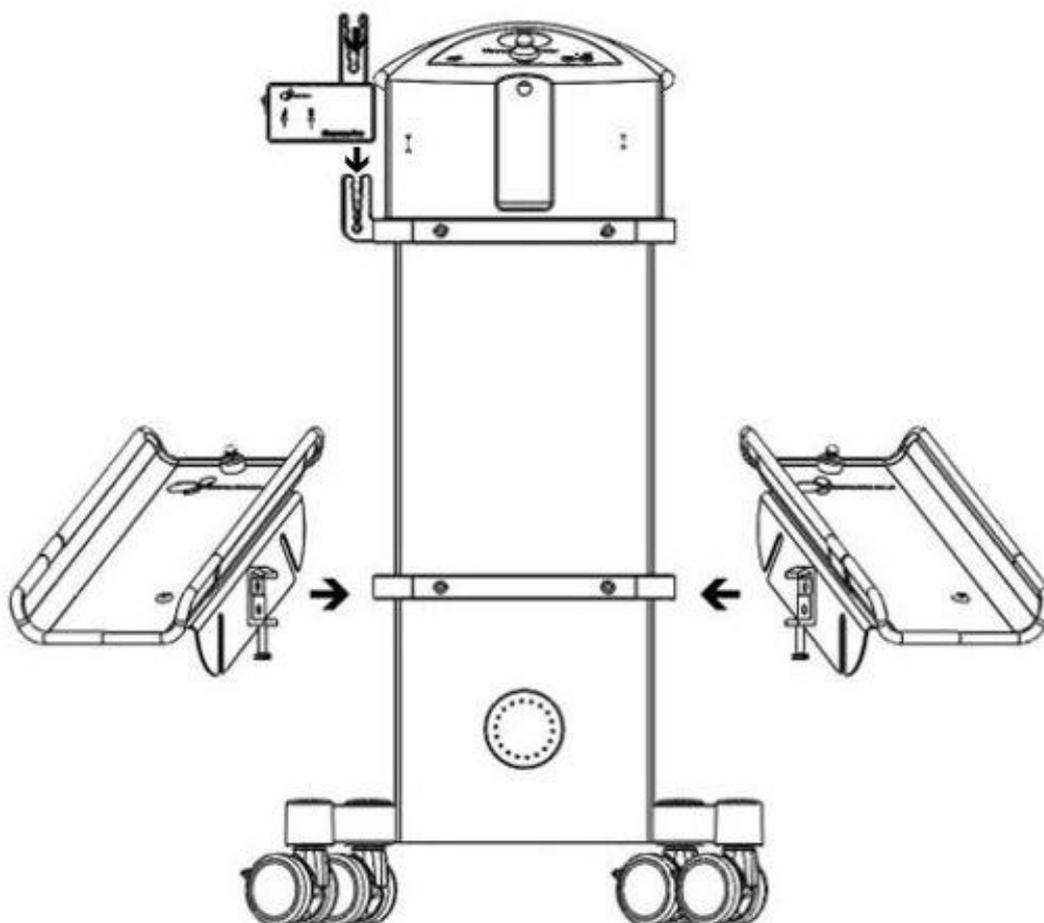

Figure 5
3. Take the **Thermia Pro** Heating Trays mounted out of the packaging and secure one on the right and one of the left of the clamping rail of the **Vacusat® power** (see *Figure 5*).